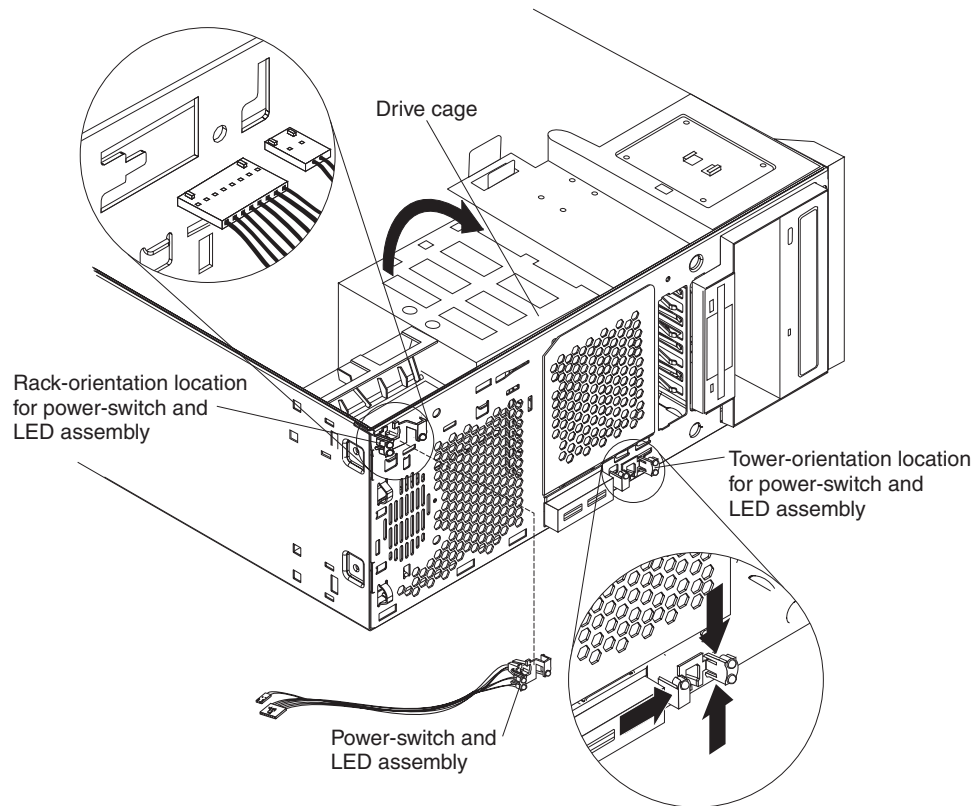

Figure 6. Relocating the power-switch and LED assembly
- 1) To remove the power-switch and LED assembly, press in on the tab on the left side of the assembly; then, squeeze the tabs on the top and bottom of the right side of the assembly and carefully pull the assembly away from the system. See Figure 6 on page 12 for tab locations.
the clear LED) through the small opening and push the power-switch connector through the large opening, as shown in Figure 6 on page 12.